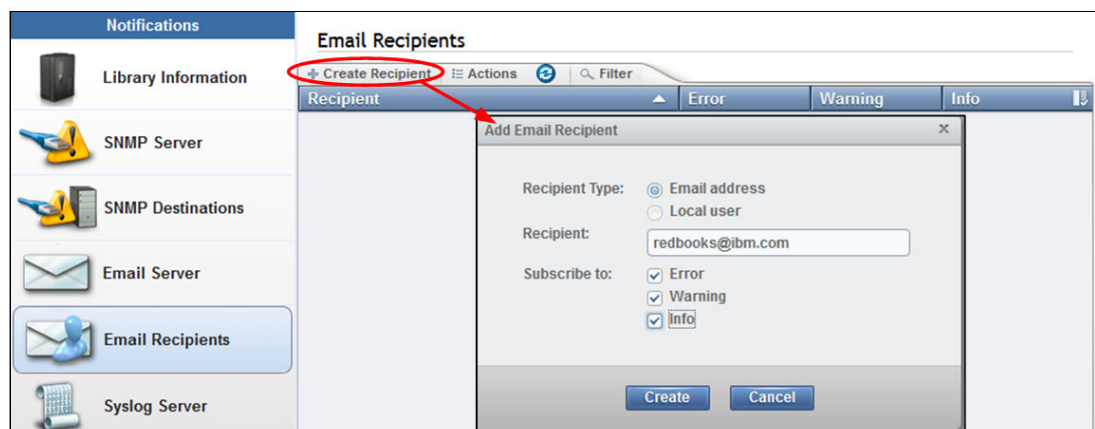

Figure 4-31 Email Recipients option
2. Select the **Create Recipient** tab, as shown in Figure 4-31.